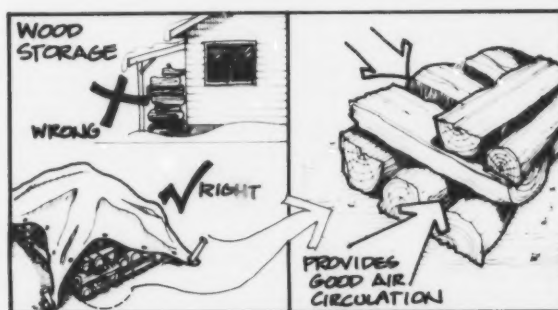

Figure 17 Guidelines for wood stacks
- Stack it. Stack the wood in layers of alternating directions to allow good air movement. This will speed drying (Figure 17).